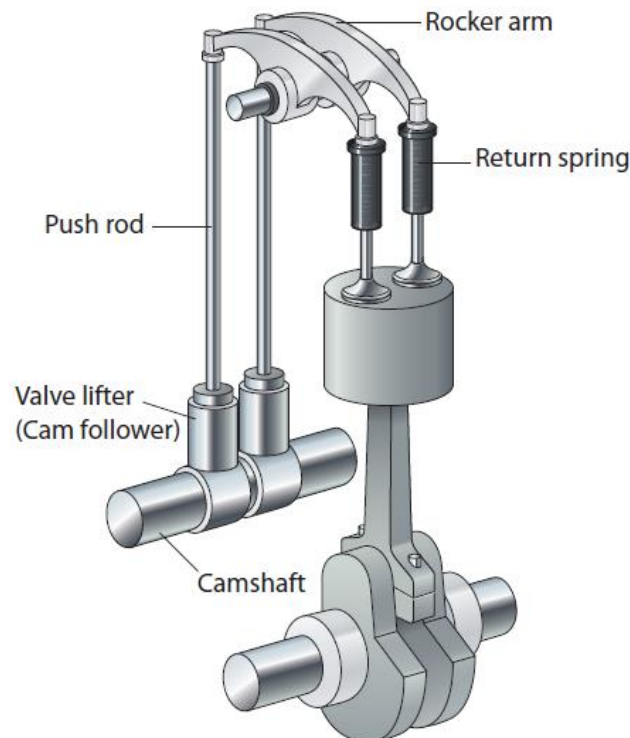

Fig 14
- Visually check the push rods for straightness before they are removed. This is done by rotating them with the valve closed (Fig. 14). If the push rods are not straight, do not attempt to straighten them replace them.